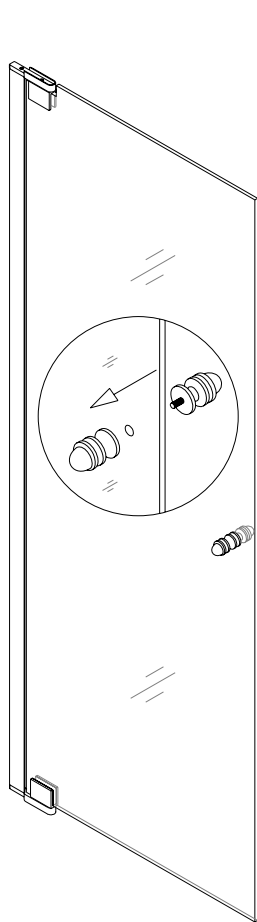

Fig 5
5. Install **Handle (6)** onto the **Glass door (3)**. See Fig 5 for details.